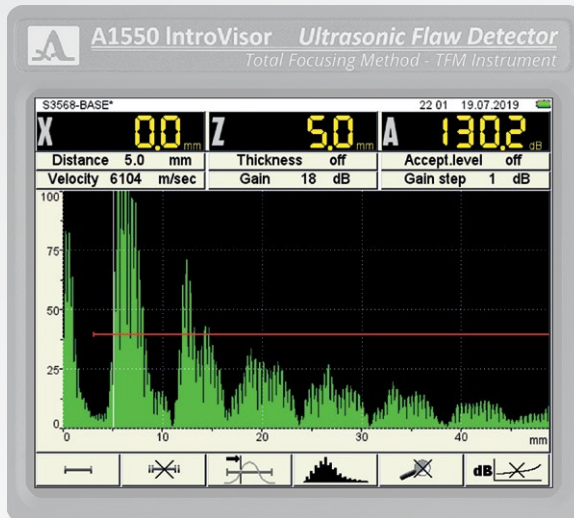

FIGURE 25
12) With the transducer located on the thin step, **press the setup key to display the A-Scan.** Read the Z-value displayed on the measurement bar. In the example shown in Figure 25, it is 5 mm.